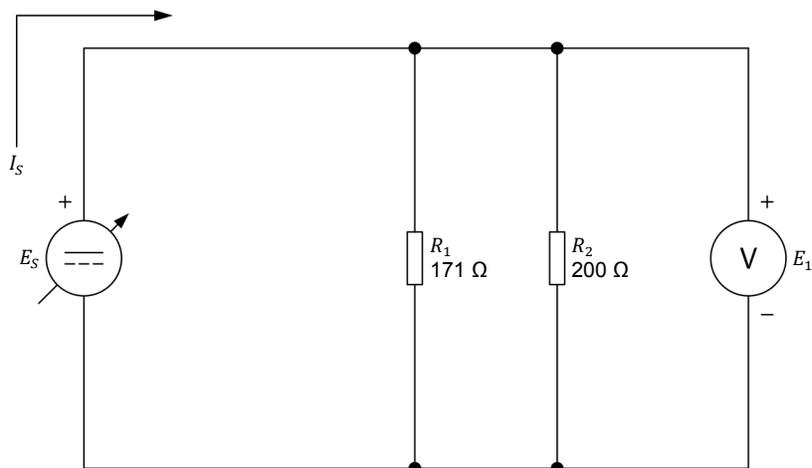

Figure 27. Measuring power in a circuit with resistors in parallel.
25. Set up the circuit shown in Figure 27. To obtain the resistor arrangement of Figure 27, make the necessary connection(s) and switch settings on the Resistive Load module.
Set a multimeter to measure dc voltage and connect it across resistors R_1 and R_2 , as Figure 27 shows.